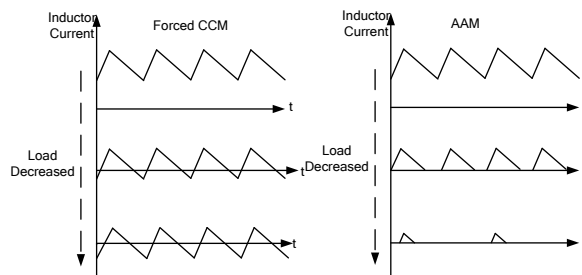

Figure 3: Forced CCM and AAM
Under normal-load conditions, the controller operates in full pulse-width modulation (PWM) mode (see Figure 3). At the beginning of each oscillator cycle, the top gate driver is enabled. The top gate turns on for a period determined by the duty cycle. When the top gate turns off, the bottom gate turns on after a dead time and remains on until the next clock cycle begins.
The MP2918 employs advanced asynchronous mode (AAM) functionality to optimize efficiency during light-load or no-load condition (see Figure 3). AAM is enabled when CCM/AAM is at a low level by connecting an appropriate resistor to SGND to ensure that the AAM voltage (V_{AAM}) is no less than 480mV. See Equation (1):